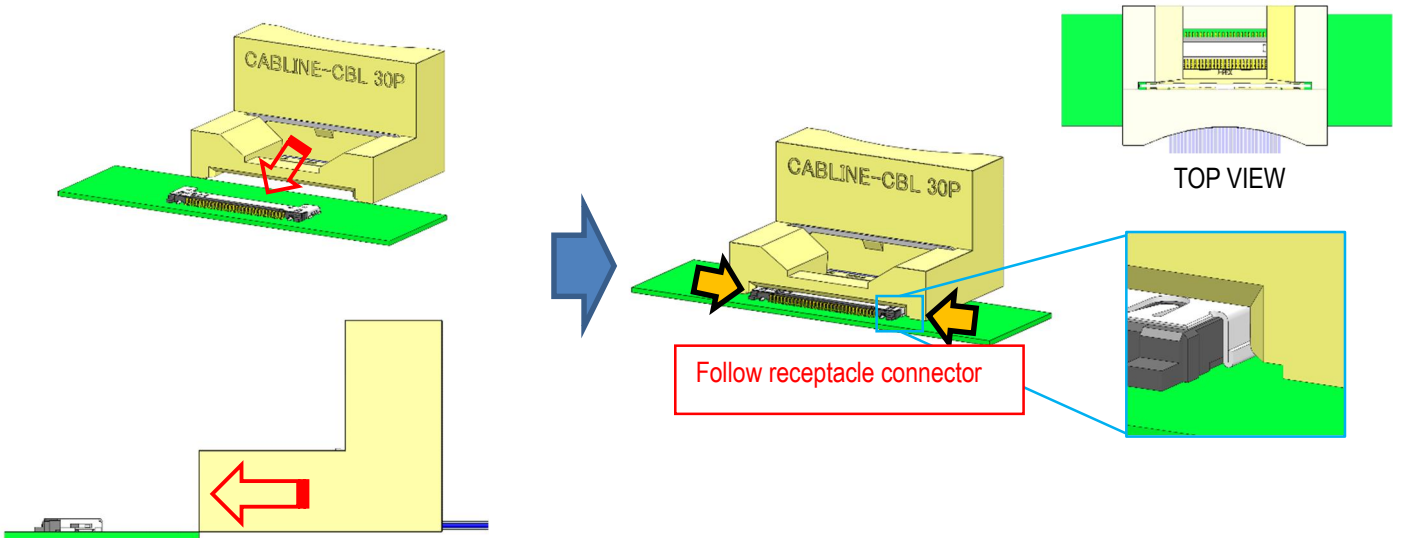

Fig.12
- ② Set the mating jig with the plug connector attached as shown in Fig. 12.